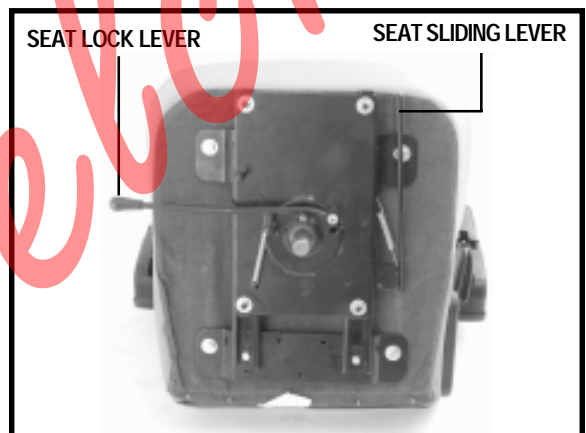

Figure 14. Seat Adjustment
1. Push forward on the seat lock lever to unlock the seat. See figure 14.
1. Move the seat sliding lever outward. See figure 14.